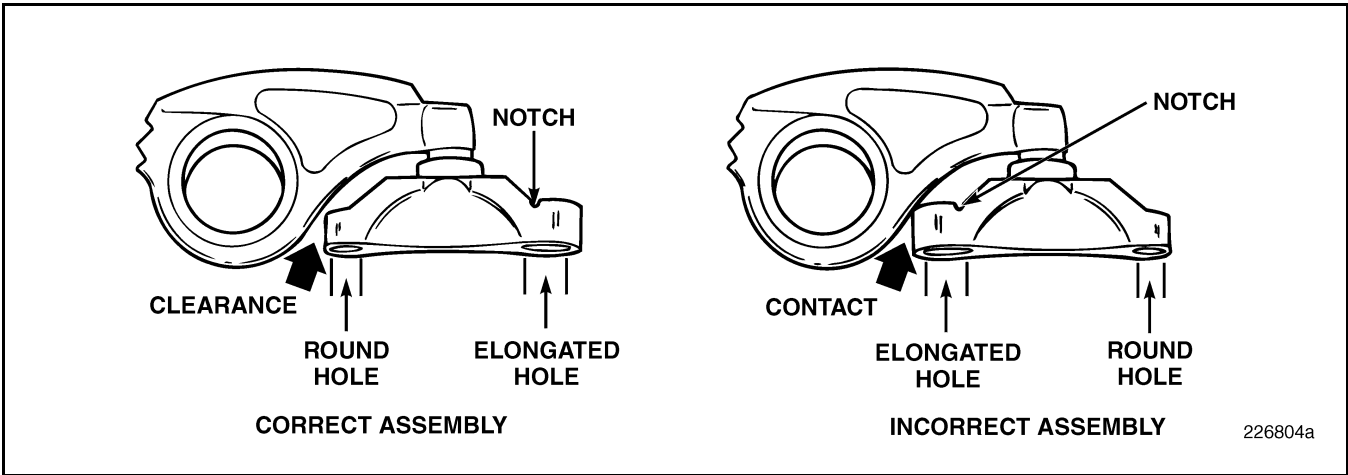

Figure 384 — Proper Assembly of the Pinless Valve Yoke
8. Place the six pinless-type yokes in position over the inlet valve pairs at each cylinder. The notch and the elongated hole in the valve yoke must be facing away from the rocker arm as shown in Figure 384.
When installing pinless yokes, the end of the yoke with the two notches must face away from the valve rocker shaft. If the yoke is installed incorrectly, it will contact the rocker arm. See Figure 384.